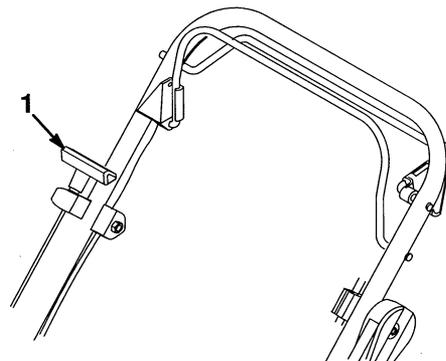

Figure 51
2. Slowly rotate engine several times, using starter rope, to distribute oil (Fig. 51).